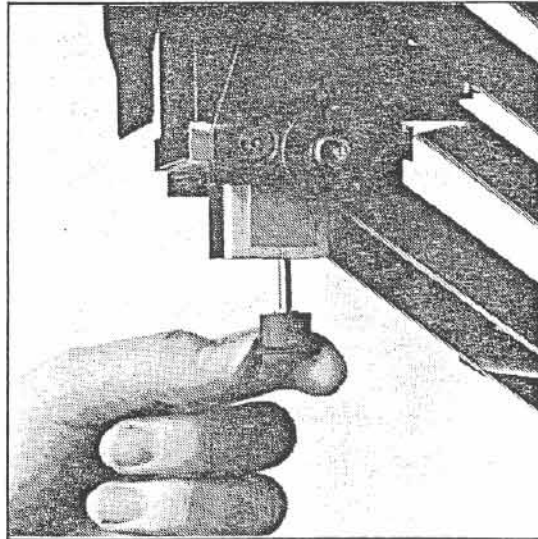

FIGURE 5. ATTACHING VACUUM PICK-UP
- attach the proper Vacuum Pick-up Cup to the Vacuum Pick-up, refer to Figure 5,